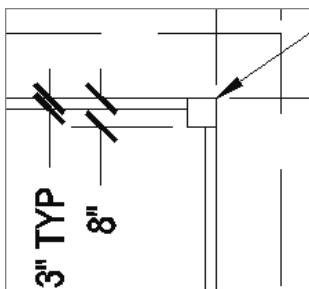

FIGURE 12.66 The handrail dimension after adding the “TYP” text
- Add another dimension measuring the width of the horizontal handrail, and add the text TYP after the dimension text, as shown in Figure 12.66. The abbreviation TYP stands for Typical; it tells someone reading your plans that all handrails are 3" in width unless designated